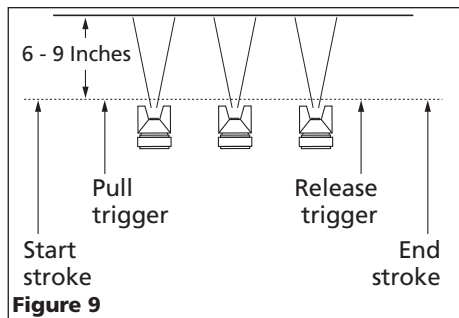

Figure 9
3. Trigger the gun properly. Start the gun moving at the beginning of the stroke **BEFORE SQUEEZING THE TRIGGER** and release the trigger **BEFORE STOPPING GUN MOVEMENT** at the end of the stroke. This procedure will feather (blend) each stroke with the next without showing overlap or unevenness (See Figure 9).